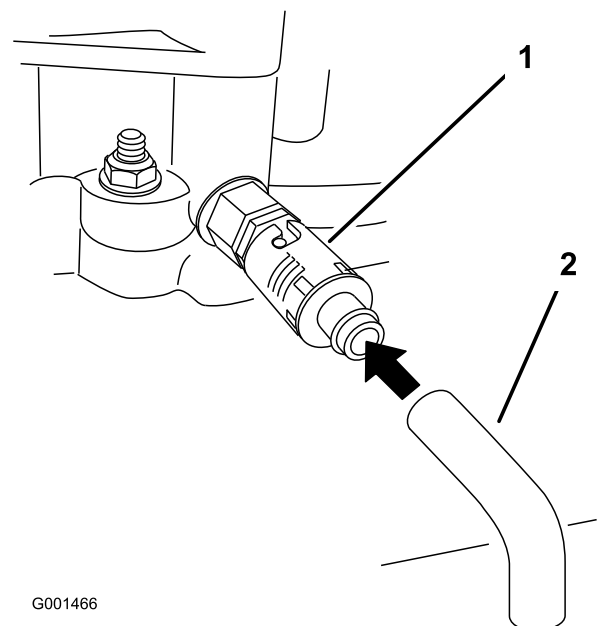

Figure 30
- Note:** Rotate oil drain valve to allow oil to drain (Figure 30).
7. Remove the drain hose (Figure 30).